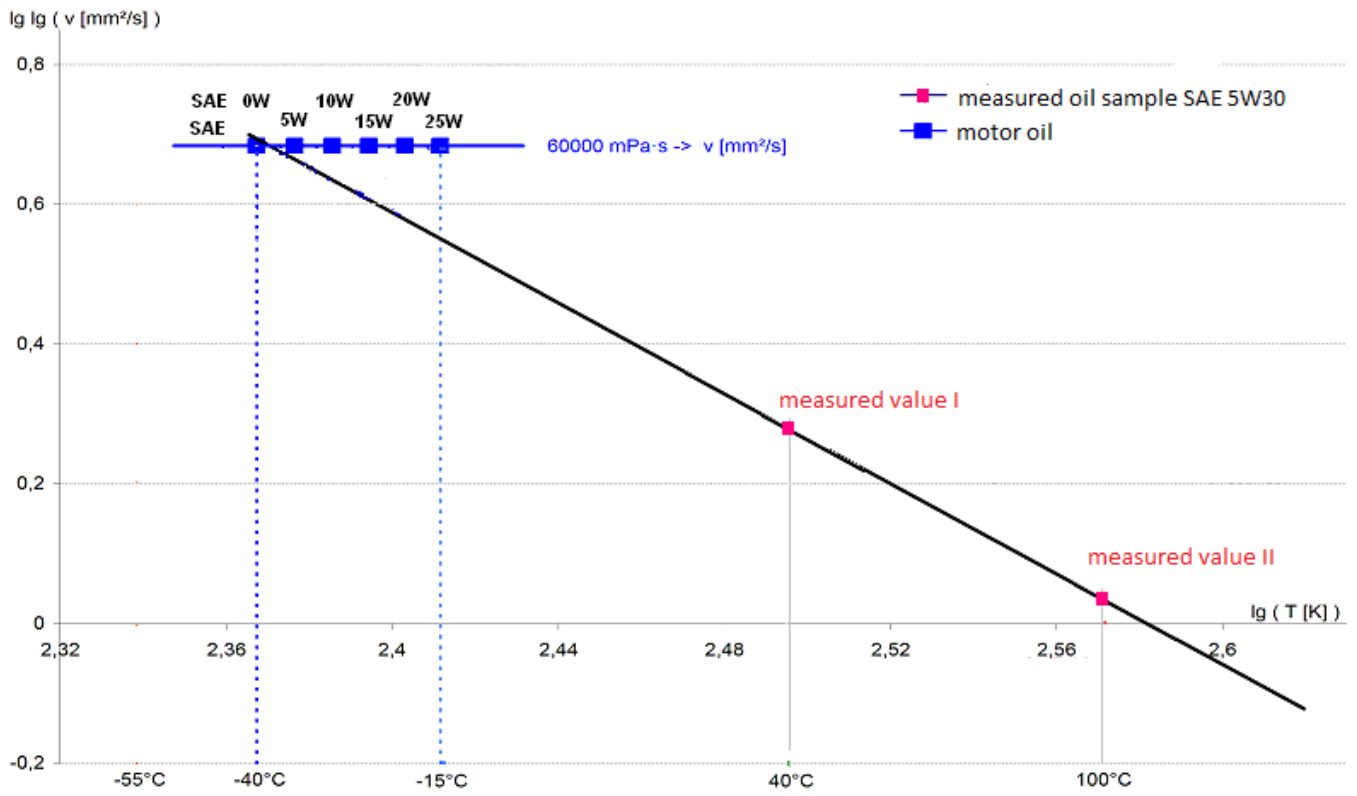

Figure 3. Graphical determination of SAE winter grade of motor oils, based on kinematic viscosity measured at 40 C and 100 C
Viscosity index (VI), characterizing temperature dependence of viscosity of lube oil, is exclusively used by experts only because it is too complex a notion for public. That is why SAE introduced 'winter' grades for characterizing behavior of lube oils in cold weather. These winter grades are defined by viscosity at low temperatures and pumpability limit temperatures belonging to 60000 mPa.s viscosity that defines a cold flow property of the oil (see Figure 3). The winter and summer grades are shown in Table 1.
For determining the winter grade, first plot the double logarithm (of base 10) in function of logarithm (of base 10) of absolute temperature (in Kelvin), see Figure 3. Plot the two measured points (first recalculate 40 C and 100 C to Kelvin). Connect the two points with a straight line. Draw the horizontal line at 60000 mPa·s (recalculate log log value first). Find the cross section of this horizontal line with the straight line defined by the two measured points. Project this intersection point to the horizontal axis to obtain the (logarithm of the) limit temperature of pumpability, and then the winter grade from Table 1.